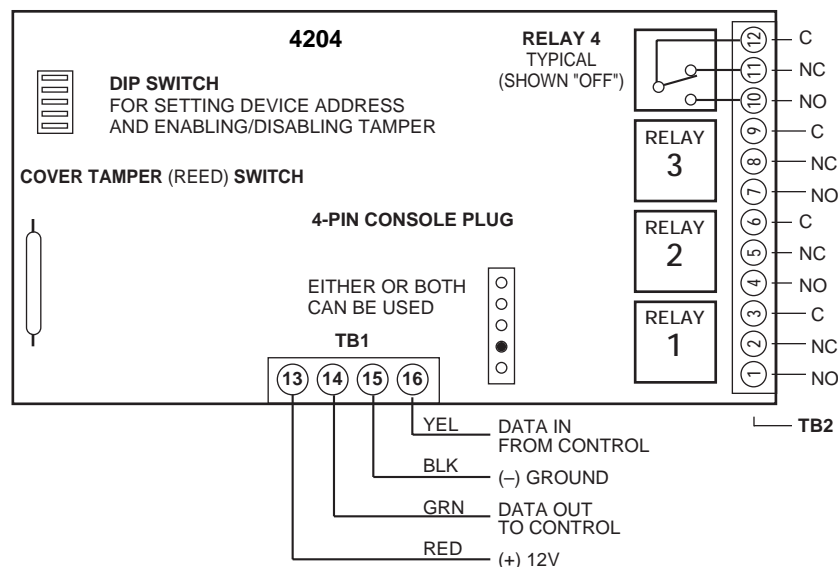

Figure 9. 4204 Connections to Control
3. **Connect the desired field wiring** to the unit's relay contact terminals. See Figure 9.